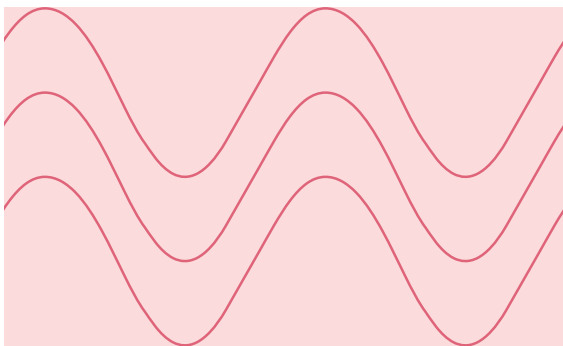

Figure 3
The concept of laser light is better understood by defining and examining its inherent properties. The light outputted from a laser differs from ordinary light and has three (3) defining characteristics that make it unique and help it to stand apart: **coherence**, **monochromaticity**, and **direction**. When all emitted photons bear a constant relationship with one another in both time and phase, the light is said to be coherent. In addition, due to the specificity and purity of the medium, laser light is also monochromatic (one color). Lastly, light emitted from the laser is highly directional, traveling as a relatively narrow beam, in a single direction, and down a specific and pre-determined path (**figures 3 & 4**).